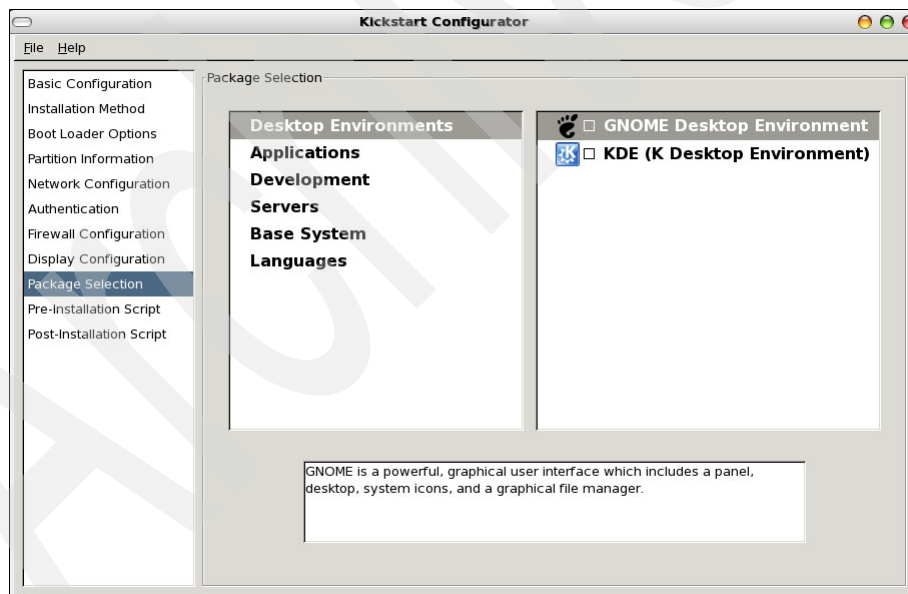

Figure B-6 Package Selection panel (©2008 Red Hat, Inc.)
8. Figure B-6 shows the Package Selection panel. It is not possible to select individual packages from this panel. However, you can add individual packages to the %packages section of the Kickstart file after saving it.